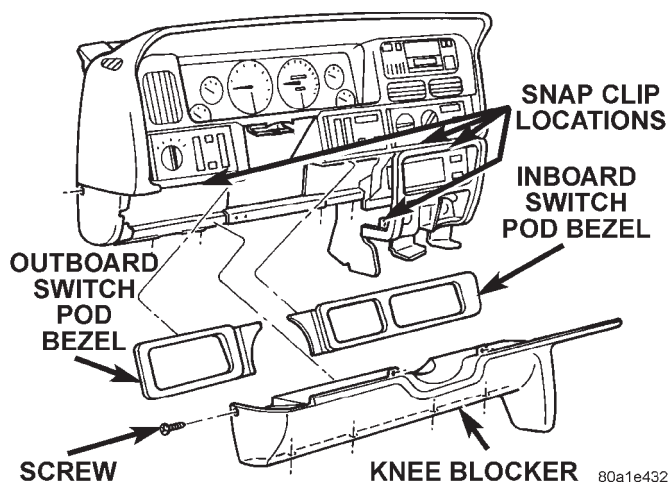
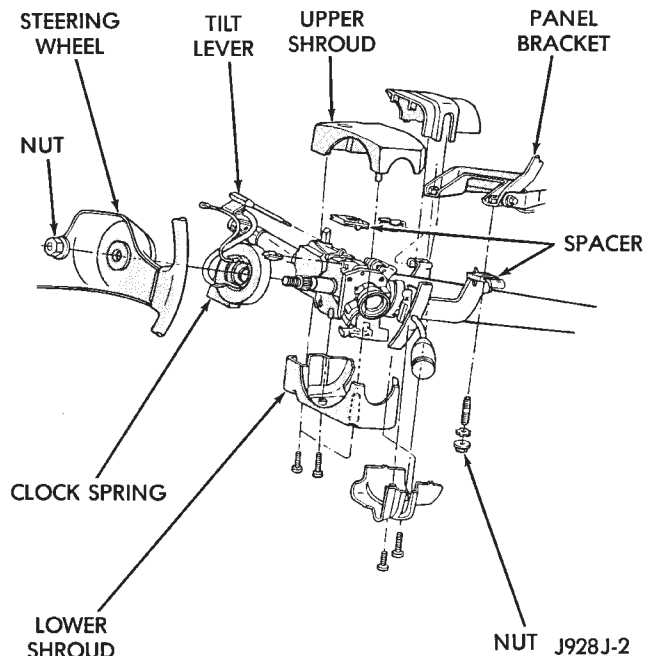

Fig. 12 Knee Blocker Remove/Install
Fig. 13 Steering Column Shrouds Remove/Install-Typical
(1) Disconnect and isolate the battery negative cable.
(2) If the vehicle is so equipped, remove the tilt steering column lever.
(3) Using a trim stick or another suitable wide flat-bladed tool, pry gently around the edges of the instrument panel switch pod bezels and remove both bezels.
(4) Remove one screw on each side of the steering column that secures the upper edge of the knee blocker/steering column cover to the instrument panel (Fig. 12).
(5) Remove the one screw that secures the outboard end of the knee blocker to the instrument panel.
(6) Remove the four screws that secure the lower edge of the knee blocker to the lower instrument panel reinforcement.
(7) Using a trim stick or another suitable wide flat-bladed tool, gently pry the edges of the knee blocker away from the instrument panel at the snap clip retainer locations (Fig. 12).
(8) Remove the knee blocker/steering column cover from the vehicle.
(9) Remove both the upper and lower shrouds from the steering column (Fig. 13).